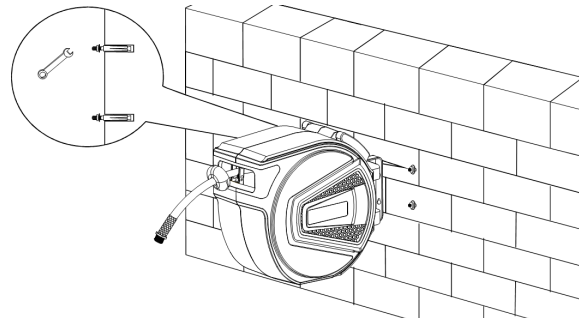

Fig. 4: Assembly
Step 3: Secure the bracket to the support with the screws (Fig. 4).